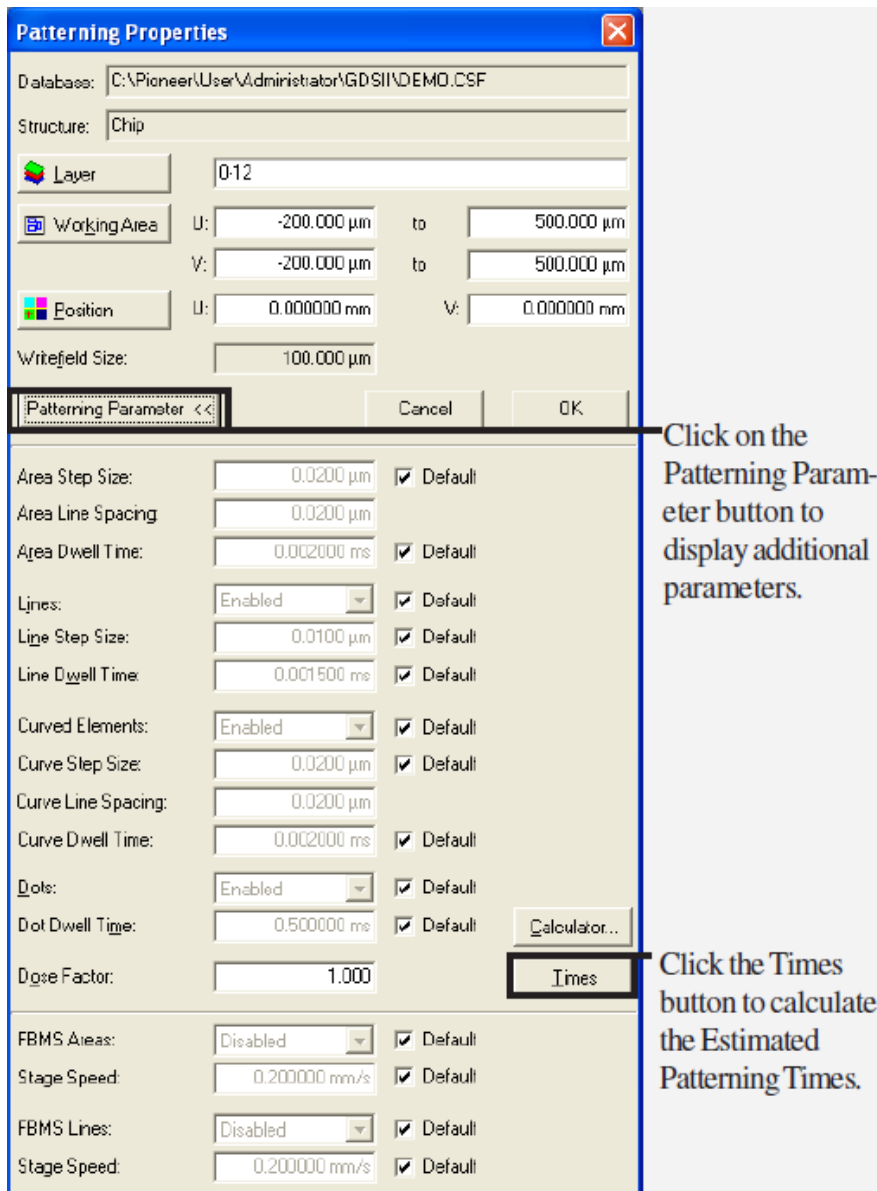

Figure 27: Patterning properties.
4. By right clicking on the positionlist entry and selecting 'Properties' you can choose various exposure properties - see Figure 27. Most importantly you can click on 'Times', which will calculate an estimate for the time it takes to expose your pattern. Note this down so that you will know when to come back to unload your sample.
5. Choose the Layers of your pattern that you want to expose using the layer button shown in Figure 27.